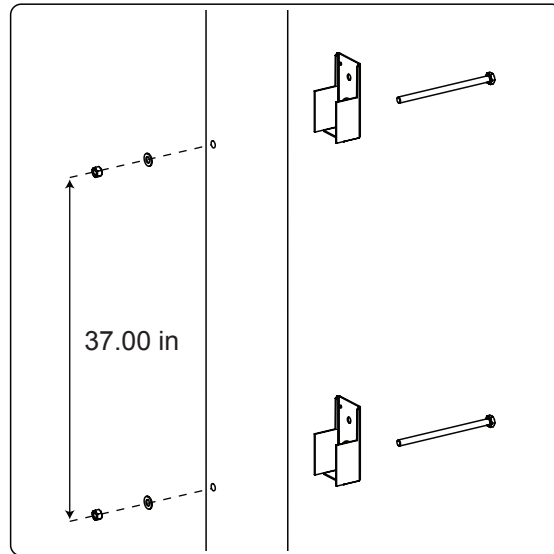

Figure 5.4- Installing the mounting brackets
4. Secure each bracket to the pole with a 5/8" machine bolt, washer and nut (Figure 5.4) (to be supplied by the installer). Do not fully tighten the bolts at this time.